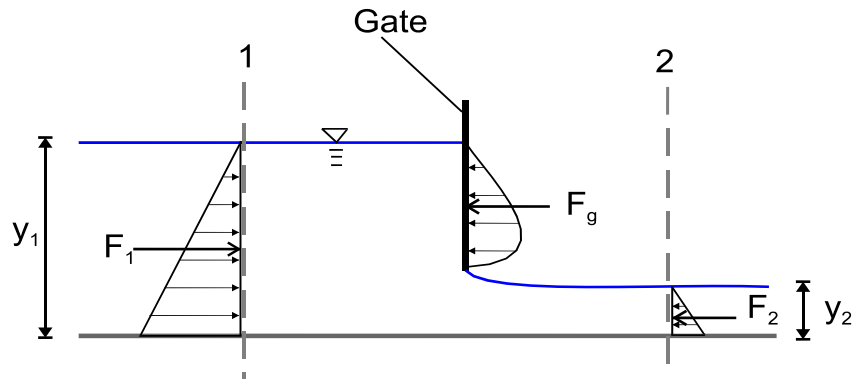

Figure 4: Sluice Gate Force Diagram
- c. **Derive an equation for  $V_2$  using the Bernoulli and continuity equations between sections 1 and 2 in Figure 4.** Calculate and compare this velocity with the measured value and give the percent error.